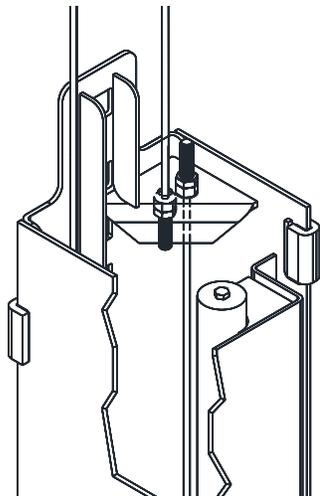

Fig. 11a – Cable Assembly
- 26) Mount synchronizer cables to carriages as shown in **Fig. 11a & 11b**.